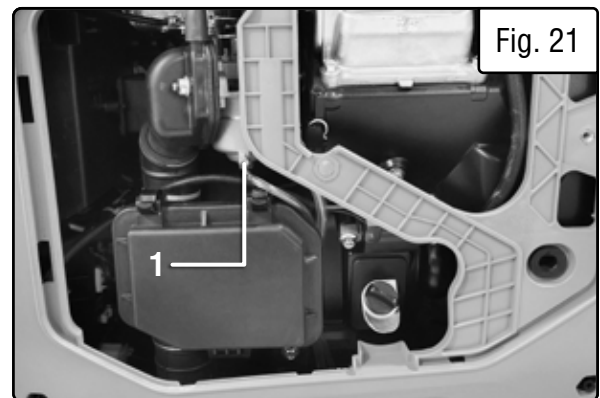

Fig. 21
3. Open up the carburetor drain screw (Fig. 21 - 1) with a Phillips screwdriver and drain out any gasoline that has built up inside the carburetor. **NOTE:** The drain hose is routed through a hole in the bottom of the generator.